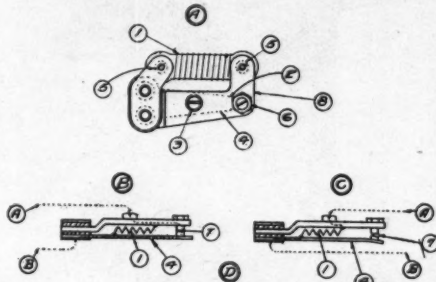

Fig. 27—The thermostat connections as system
3—The thermostat used on the Remy system is shown in Fig. 27 (A). In (B) of the same diagram the dotted line shows the path of flow of the current. Notice that the points of the thermostat are separated in (C) as a result of heat and the path of flow of the current has changed. This shows the advantage of the thermostat in that it causes a large volume of current to flow through the battery and brings the battery to a gassing point quickly, at which time the battery begins to absorb a charge thereby providing an early return of current expended in starting. The thermostat resistance also acts as a protective device to the generator in case the battery or generator circuit should ever become disconnected in operation from either accident or neglect, the resistance wire would then burn out and prevent the generator windings from being damaged.